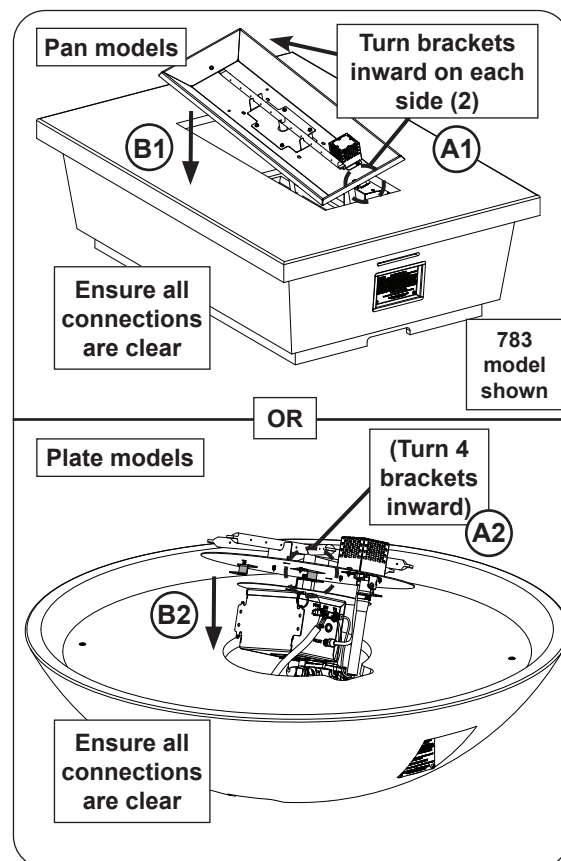

Fig. 33-2 Insert burner assembly
1. Ensure that the 2-4 burner brackets are turned inward, then insert the burner assembly (see Fig. 33-2, A-B).